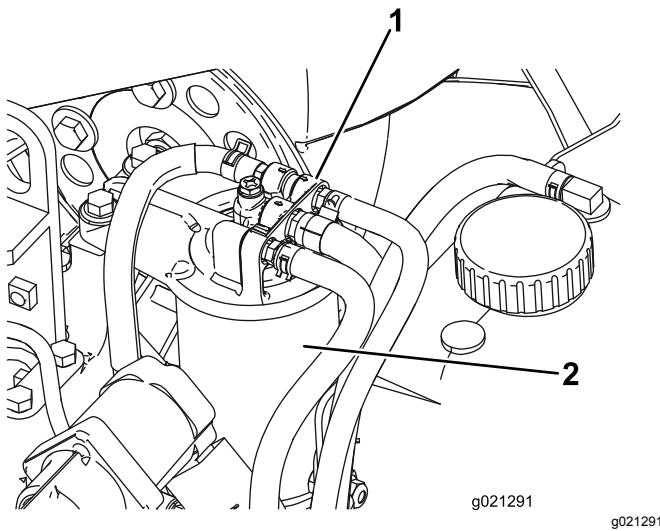

Figure 94
1. Clean the area around the fuel-filter head (Figure 94).
2. Remove the filter and clean the filter head mounting surface (Figure 94).